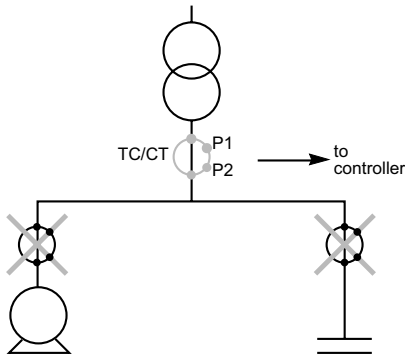

Fig. 7
■ CT to be installed (Fig. 7 and 8):